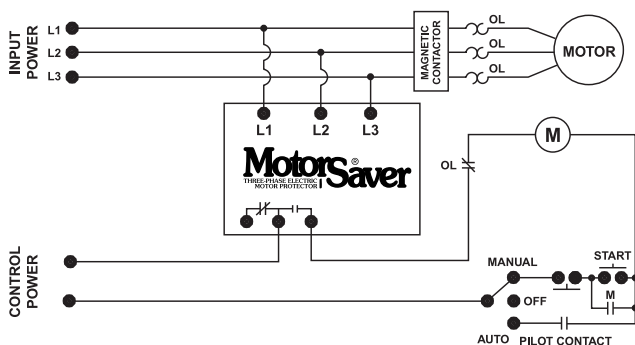

Figure No.1: Typical Motor Control Wiring Diagram
2. Connect the three lines of the motor's three-phase power supply to L1, L2, and L3 on the MotorSaver® (see Figure No. 1).
3. Connect the output relay to the circuitry to be controlled (see Figure No. 1 and Figure No. 2).